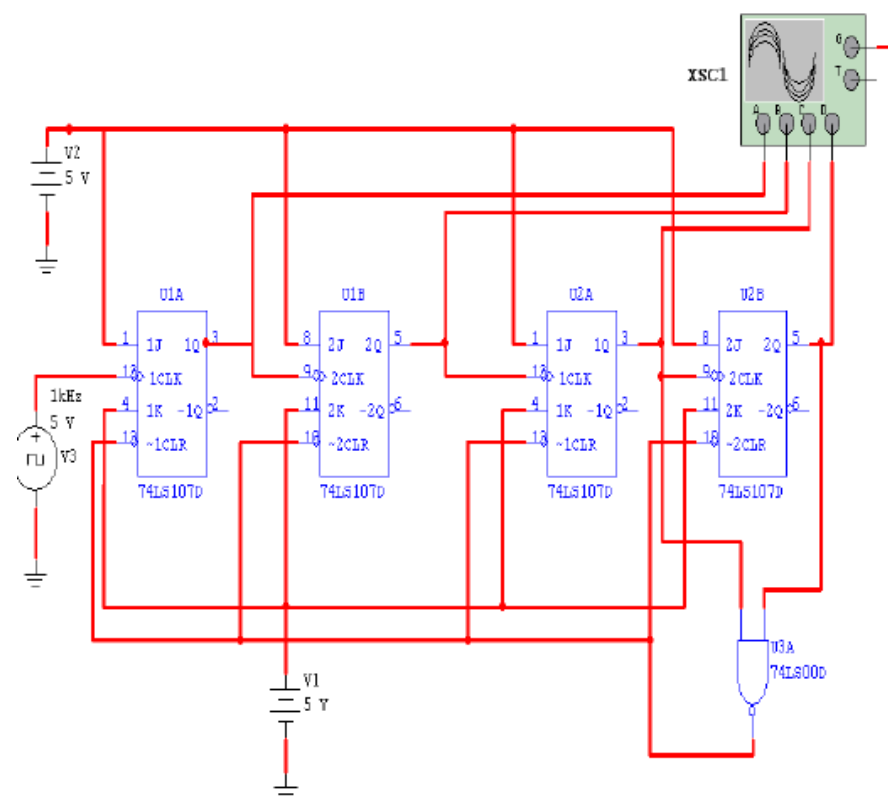

Fig.23 BCD counter
- Construct the circuit shown in Fig.23.